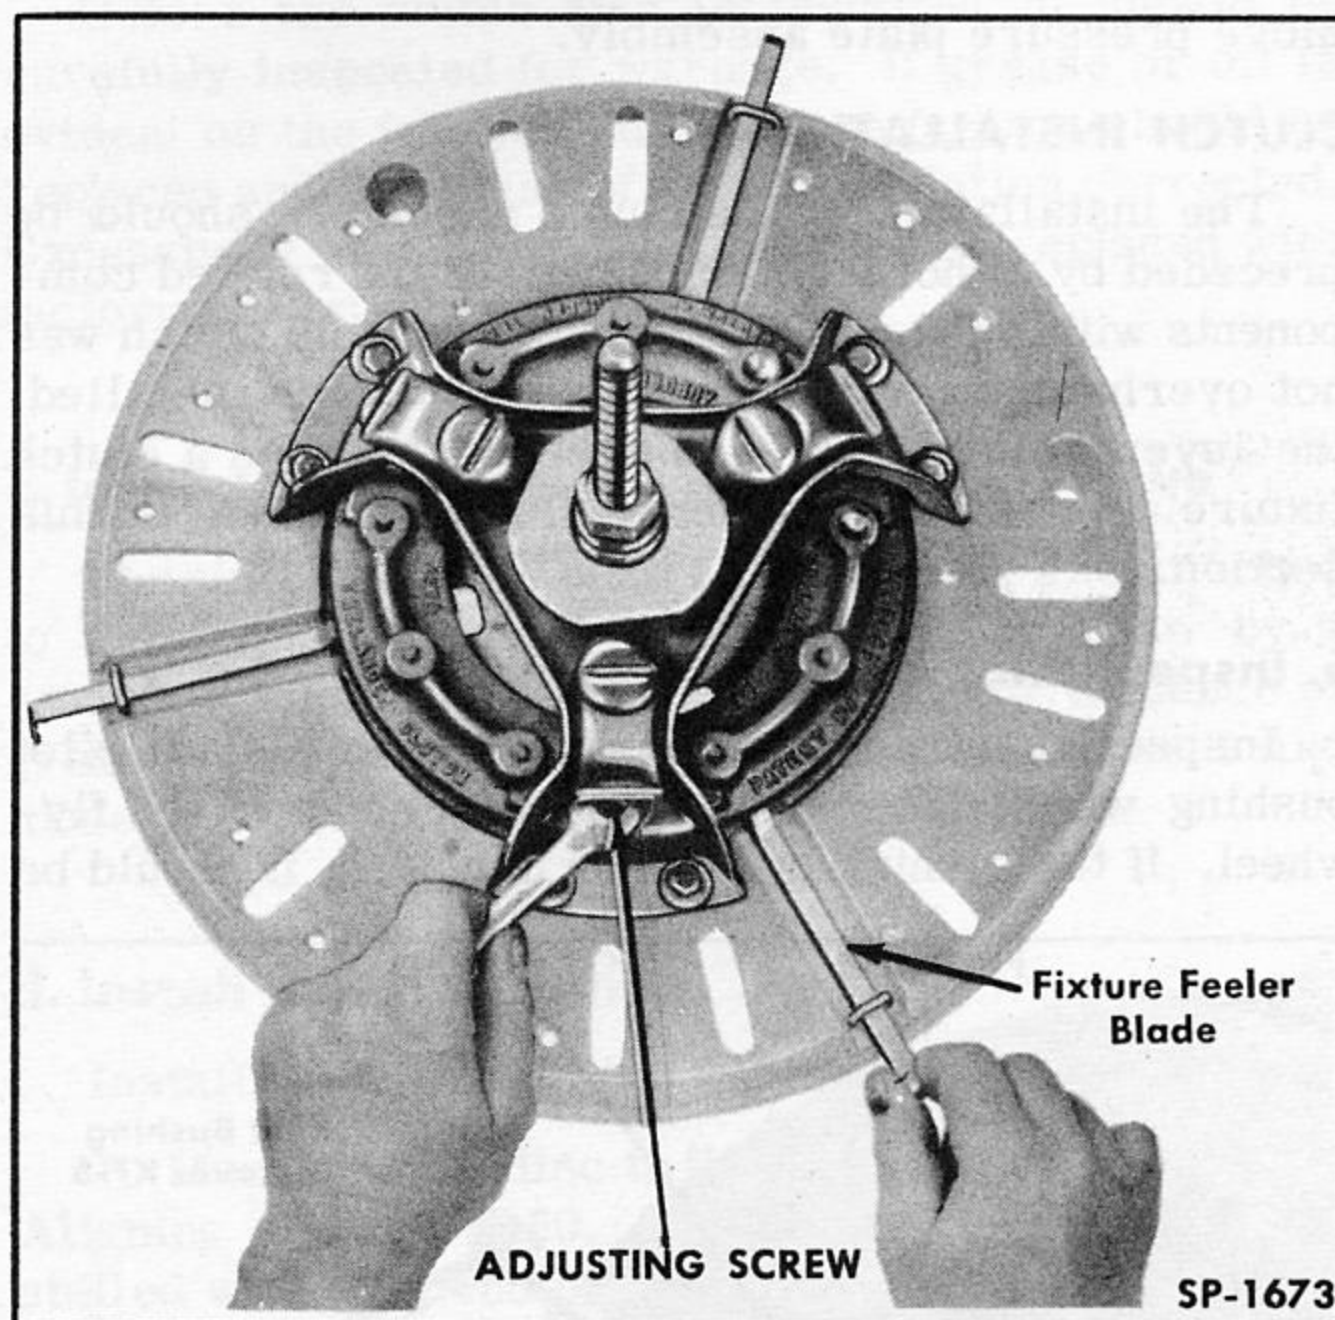

Fig. 111—Adjusting Levers on Three Spring Clutch
11. Adjust pressure plate levers by turning lever adjusting screws (Fig. 111) until each of the three fixture feeler blades have the same slight drag or "feel" when pushed in and out. Tighten lock nuts.